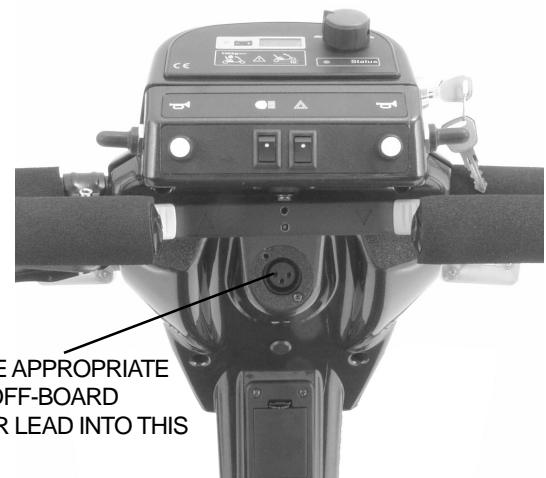

Figure 15. Off-Board Battery Charger Port
4. Connect the off-board battery charger to the off-board battery charger port and the standard wall outlet. See figure 15.